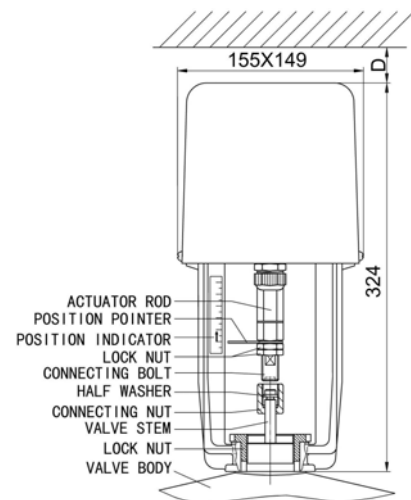

Fig.2
*Note: "D" in Fig. 2 should be more than 160mm for installation and maintenance.
1. Install the actuator bracket on the valve body. Mount the connecting nut on the valve stem. Put the two half washer into the groove of the top of valve stem, then screw the connecting bolt into the connecting nut. The degree of tightness depends on whether the valve stem and other parts can rotate correspondingly and without axis clearance. And then lock the nut tightly. Finally use lock nut to tighten the actuator. (See Fig. 2)
2. Give priority to vertically installation, and the lean should not more than 30°, remain enough space for maintenance use. (See Fig. 2)